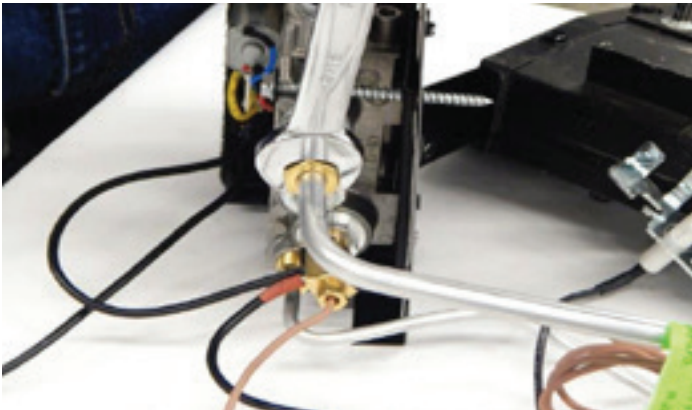

Figure 36
32. Using 9/16" wrench, attach the burner gas line to the valve. **See Figure 36.**